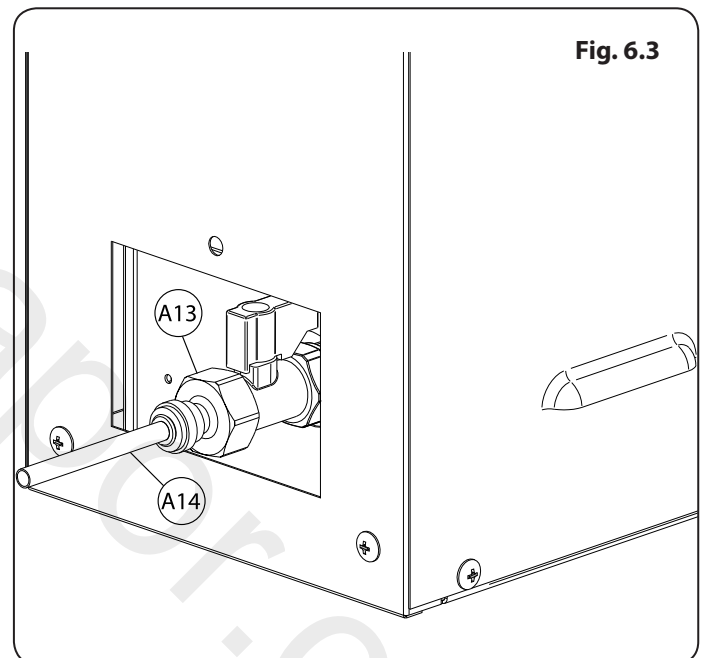

Fig. 6.3
- !** Each time the drain valve is used, you should always carefully check that after use the drain valve is fully closed, and not dripping, any leak from the drain may cause damage to the equipment or surroundings. Take care not to move the drain valve lever (A12) when stowing the adaptor (A13) and drain hose (A14) (**Fig. 6.3**).